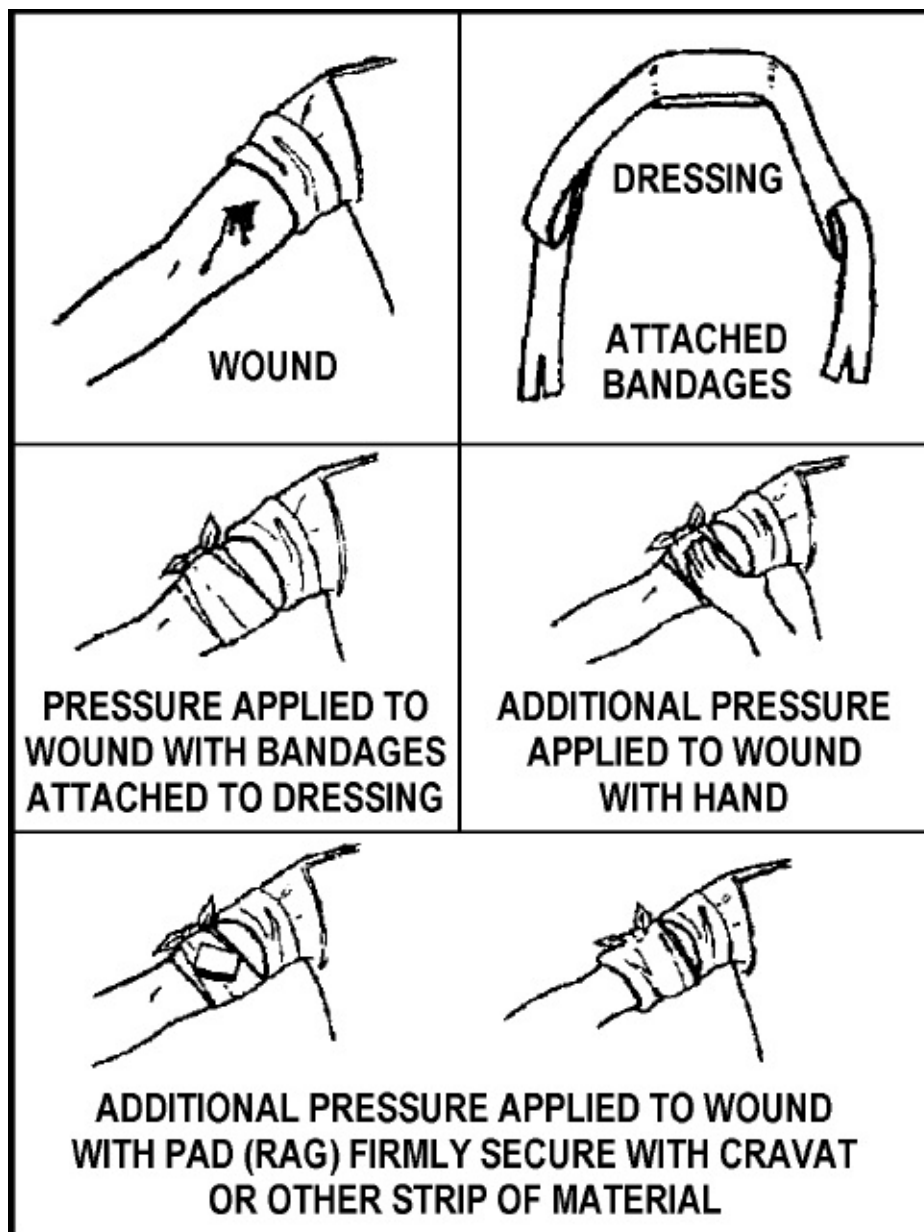
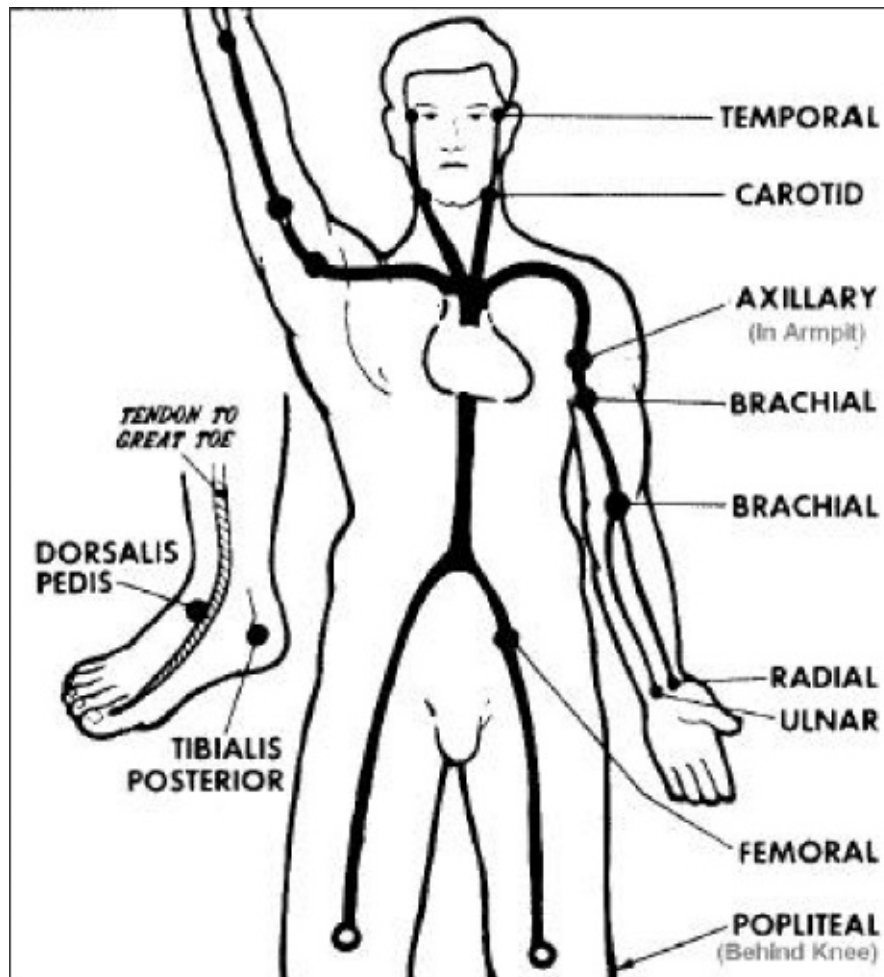

Figure 5-2. Application of a pressure dressing
Figure 5-3. Pressure points
- (1) Apply a pressure dressing (**Figure 5-2**).
- (2) If ***STILL*** bleeding—
(3) If **STILL** bleeding—
- (a) Use a pressure point between the injury and the heart (**Figure 5-3**).
(4) If a limb wound is **STILL** bleeding—